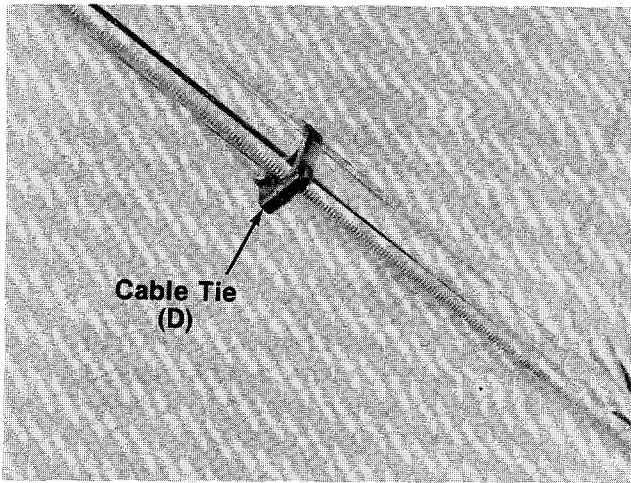

FIGURE 5.
5. Secure throttle control cable and blade brake/clutch cable to handle with cable ties (D) provided. See figure 5.